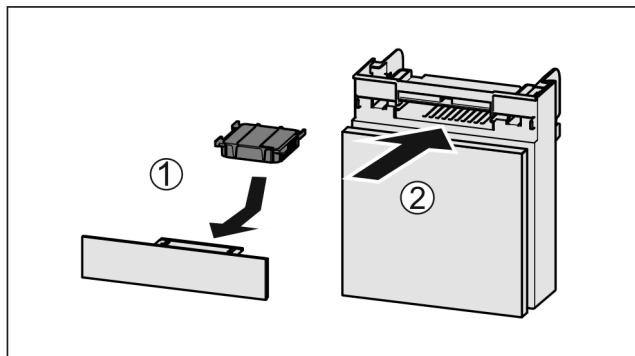

Fig. 98
- Insert the carbon filter as shown in the diagram Fig. 98 (1).
- Push the compartment in Fig. 98 (2).